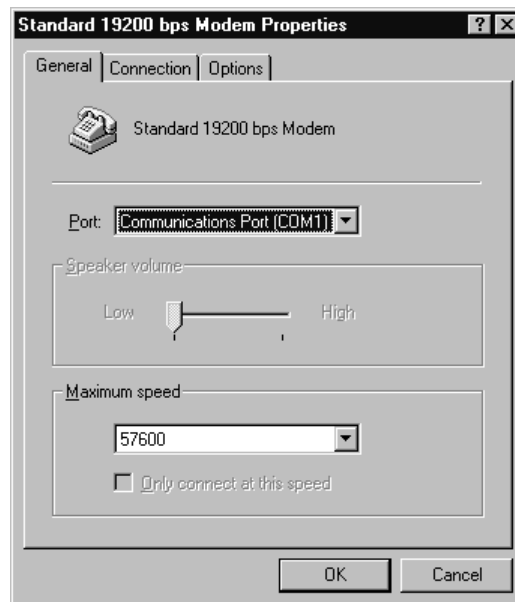

Figure 2-2. Modem Properties Dialog Box
2. In the Standard 19200 bps Modem Properties dialog box, under the General tab, ensure that Communications Port (COM1) is selected as the Port. Change the Maximum Speed to 57600. See Figure 2-2.